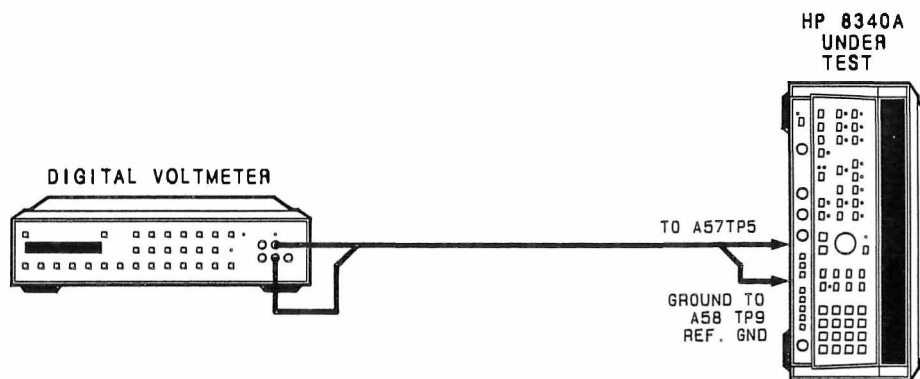

Figure 5-29. Marker Band Crossing Test Setup
1. Position the HP 8340A in the Test Position and connect equipment as shown in Figure 5-29. Allow one-half hour for warmup.
3. Adjust A57R33 MAN GAIN control (Figure 5-29) for 10.0000 ± 0.0005 Vdc at A57TP5 as indicated on DVM.